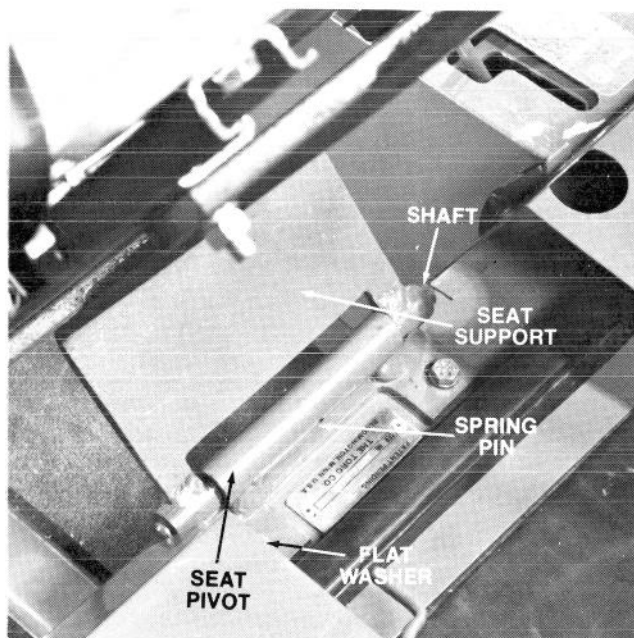

Figure 2
6. Assemble the seat support and seat pivot together, align the holes and insert the shaft through the holes. Secure the components together with a spring pin and mount the assembly to the frame. Assemble a flat washer beneath the head of the L.H. mounting capscrew and leave the assembly loose (Fig. 2). Lower the seat support, install the seat and reposition the